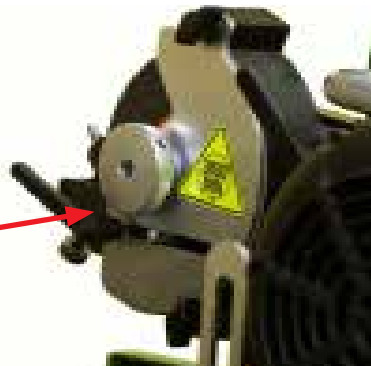

FIG. 25
3. Use the lock handle on the side of the wheel guard to adjust the gap between the fixed finger and the grinding wheel. See FIG 25. To reposition loosen the lock handle and slide the finger toward or away from the grinding wheel. The distance between the grinding wheel and fixed finger should be between .06" [1.5mm] and .18" [4.6mm] depending on the amount of existing relief on the reel.